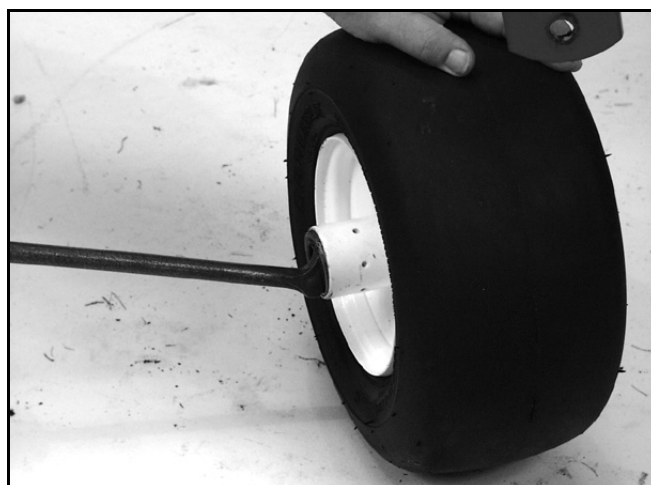

Figure 100
5. Remove the bearing seal (Figure 100).